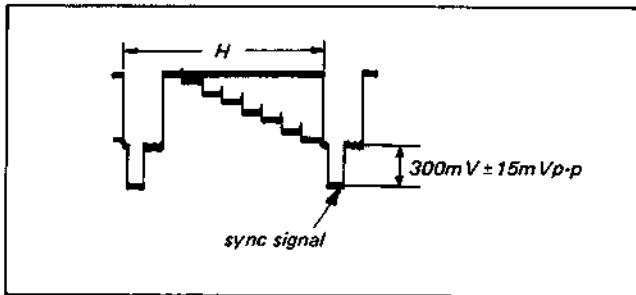

Fig. 4-4-12. Level adjustment of sync signal
- (1) Supply the colour bar signal and set up the E-E mode.
- (2) Connect the oscilloscope to pin 22 of IC1.
- (3) Adjust RV14 for the sync signal level of $300\text{mV} \pm 15\text{mVp-p}$. (See Fig. 4-4-12.)